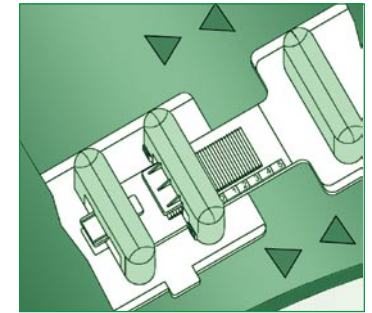

Fig. 5
5. Registrare i moduli manualmente, in modo omogeneo, fino a farli aderire al tubo (vedi Fig. 5).
Close the modules manually, in order to tighten them to the carrier pipe (see Fig. 5).